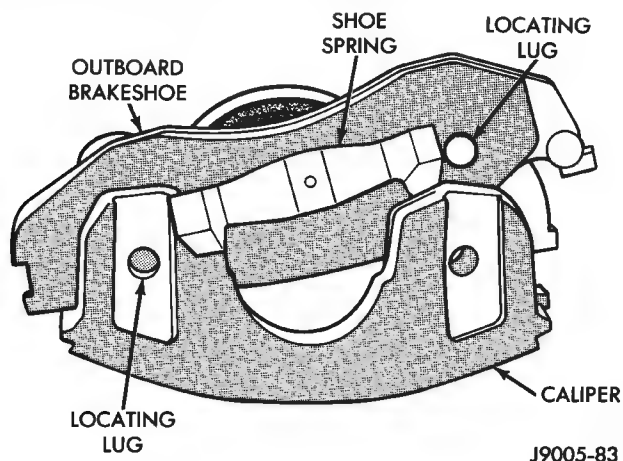

Fig. 7 Removing Outboard Brakeshoe
(8) Remove outboard shoe. Press one end of shoe inward to disengage shoe lug. Then rotate shoe upward until retainer spring clears caliper. Press opposite end of shoe inward to disengage shoe lug and rotate shoe up and out of caliper (Fig. 7).